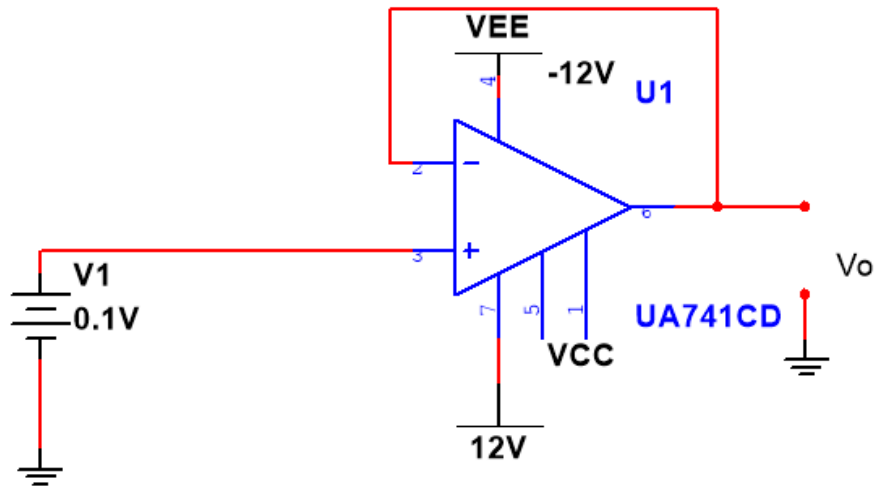

Fig 1.4: Op-amp Voltage follower
2. The circuit is set-up as shown in figure 1.4. The supply voltage $\pm V_{CC}$ is set at $\pm 14V$.